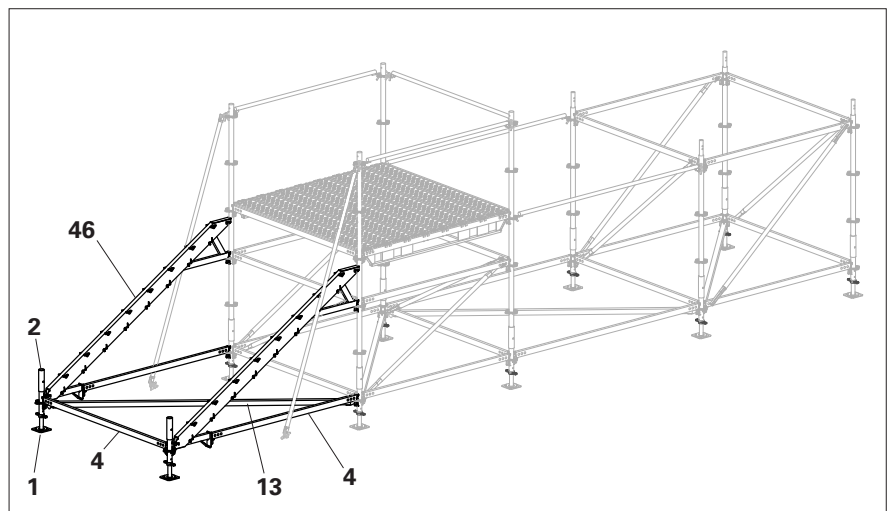

Fig. C1.06
1. Fit 2 x Adj. Base Plate UJB Ø38mm 50/30 (1) with 2 x Base Standard UVB 25 (2) and Horizontal Ledger UH-2 200 (4) as front support for the stair stringers.
2. Fit 2 x Stair Stringer PAS 250/150 (46) with Horizontal Ledger UH-2 200 (4).
3. Fit the H-Brace UBH Flex 250/200 (13). (Fig. C1.06)